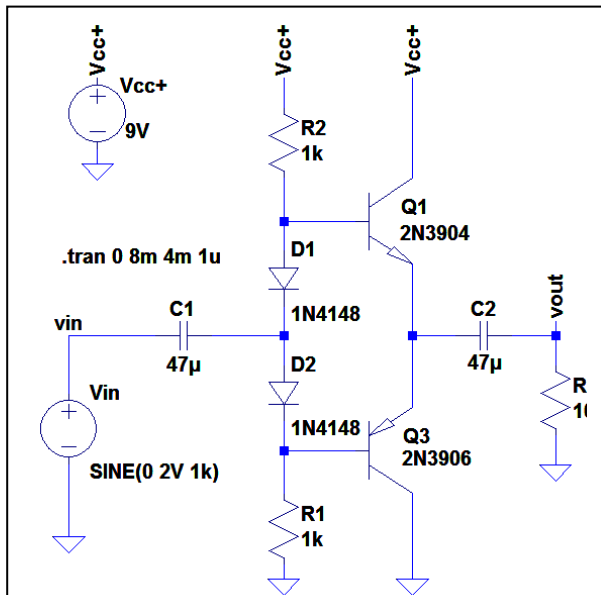

Fig 3.13: A class AB push-pull amplifier. The diodes ensure the pair of transistor pn junctions are “on”.
A class AB amplifier solves the distortion problem, but doesn't have as high efficiency. As Figures 3.13 and 3.14 show, adding a pair of diodes in the base bias string ensures that there is just sufficient voltage to turn on the pair of transistor pn junctions, and the output signal is far less distorted.
These push-pull configurations are rather like a pair of emitter follower circuits; that is, the ideal voltage gain of this amplifier will be one. Thus, the circuit of Figure 3.13 would replace the CC amplifier in our 2-stage audio amp.
6. Modify the circuit of Figure 3.11 by adding a pair of 1N4148 diodes to get the circuit of Figure 3.13.
3. Now breadboard the class AB push-pull amplifier by adding the diodes as shown in Figure 3.13. Check the bias voltages with no input signal applied and determine the circuit's quiescent dissipated power P_Q .